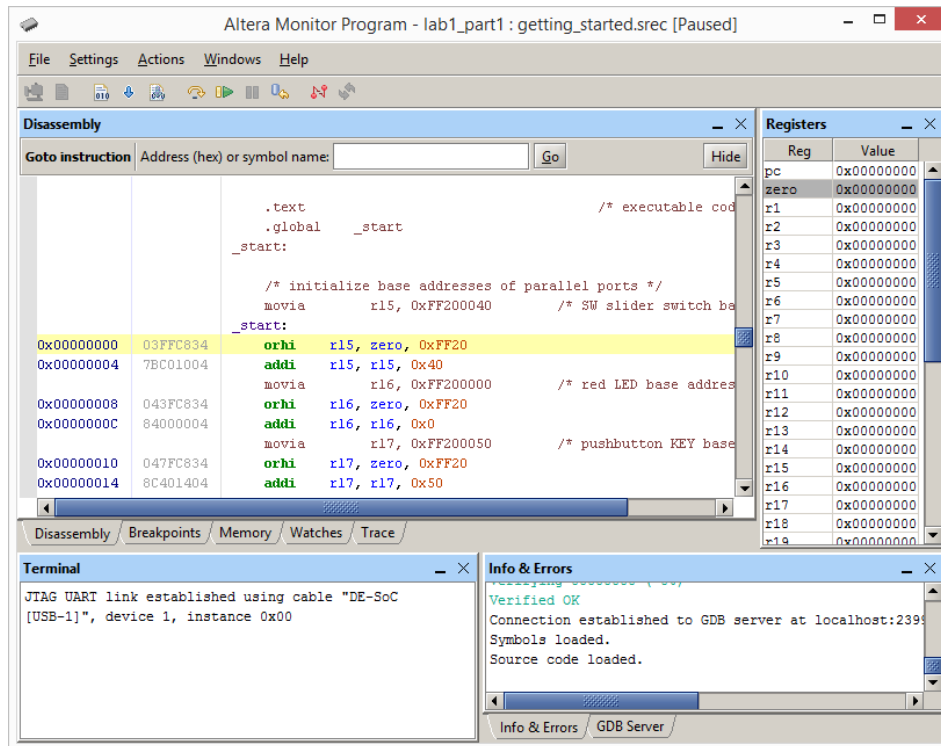

Figure 8: The monitor window showing the loaded sample program.
9. Having downloaded the Computer into the FPGA on your DE-series board, we can now load and run the sample program. In the main Monitor Program window, shown in Figure 8, select **Actions > Compile & Load** to assemble the Nios II program and then load it into the FPGA chip. Figure 8 shows the Monitor Program window after the sample program has been loaded.